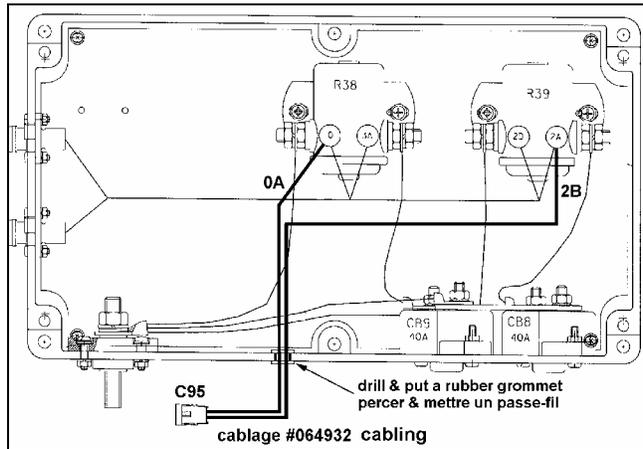

FIGURE 4 : A/C JUNCTION BOX
5. Refer to figure 4, 5, 6 to identify the A/C junction box on your vehicle and connect the electric cabling (Prévost #064932) to the A/C junction box as shown.